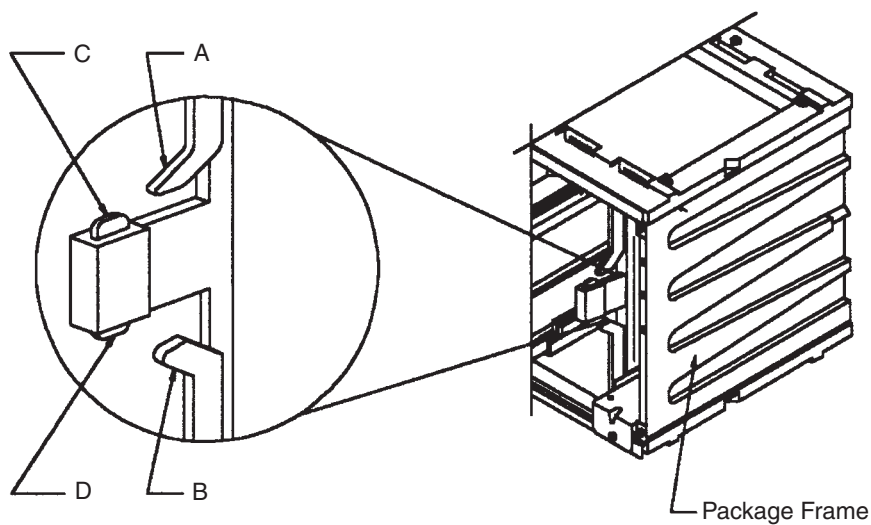

Figure 4-158. Card Clamp Mechanism
- c. Check that the cards are labelled according to their positions. If they are not, label them. Refer to Figure 4-158 on page 4-170 and remove the cards as follows: